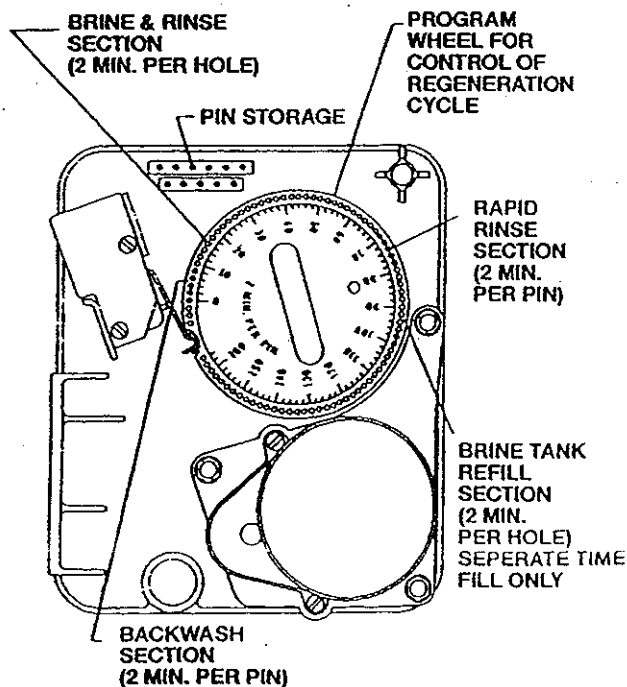

Figure 2
Each control valve position can be manually selected by rotating the **manual regeneration knob** clockwise until first microswitch located on rear of timer door is aligned with each cycle position on the program wheel. (See Figure 2.)
1. Manually index manual regeneration knob to **BACKWASH** position and allow water to run to drain for 3 to 4 minutes. (See Figure 2.)
2. Manually index manual regeneration knob to **BRINE REFILL** position and allow the brine tank to fill just over the salt grid plate. (See Figure 2.)
3. Manually index manual regeneration knob to **BRINE & RINSE** position and allow the control valve to draw water from brine tank until it stops. (See Figure 2.)
4. Manually index manual regeneration knob to **SERVICE** position. (See Figure 2.)
5. Manually index manual regeneration knob to **BRINE TANK REFILL** position and allow the control valve to automatically fill the brine tank. (See Figure 2.)